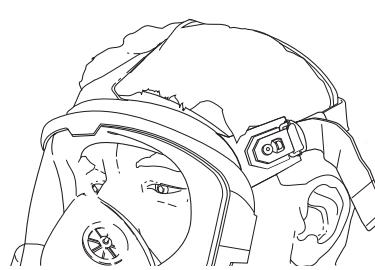

Fig. 25 Hair interfering with face seal
– Hair between the seal and face, or a visible separation of the seal from the face (Fig. 25).